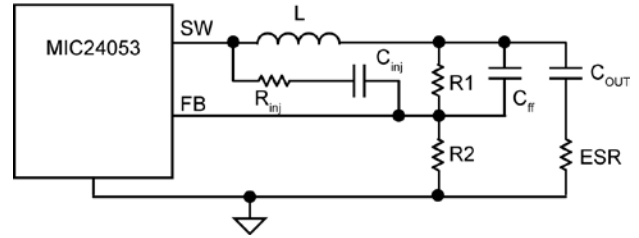

Figure 7. Invisible Ripple at FB
In this situation, the output voltage ripple is less than 20mV. Therefore, additional ripple is injected into the FB pin from the switching node (SW) using a resistor (R_{inj}) and a capacitor (C_{inj}), as shown in Figure 7. The injected ripple is: